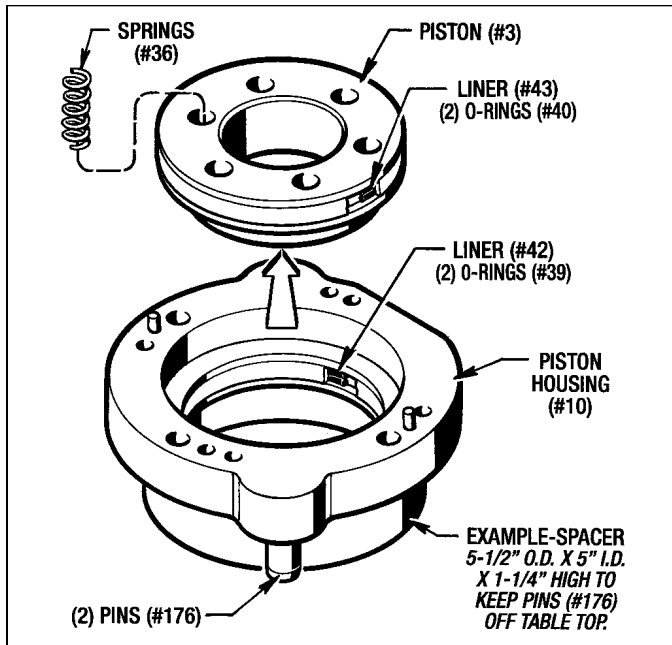

Figure 7.7 - Removing Piston Seals
6. Remove the Liner (#43) and (2) O-Rings (#40) from the Piston (#3). Also take the Liner (#42) and both O-Rings (#39) out of the Piston Housing (#10) as shown in *Figure 7.7*.